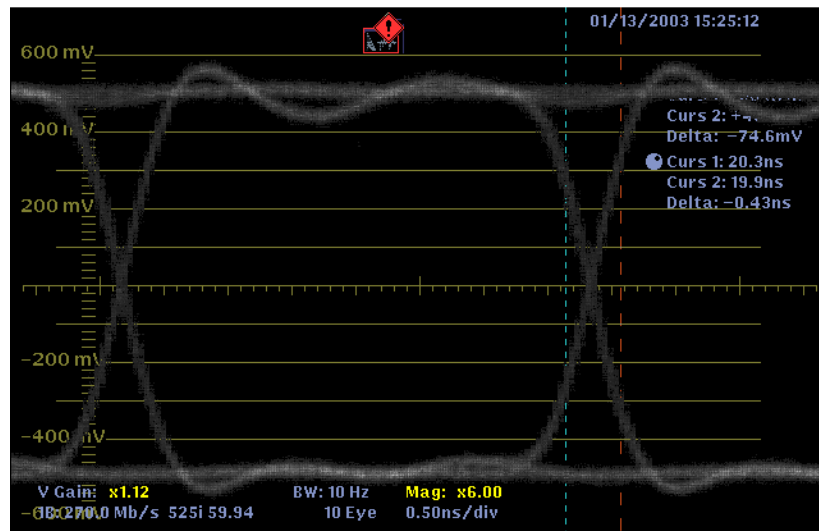

Figure 3-3: Timing Cursors alignment for measuring 20-80% rise time
3. Position the first timing cursor at the crossing of the rising edge of the Eye waveform and the graticule line two divisions above the bottom of the waveform as shown in Figure 3-3.
4. Position the second time cursor at the crossing of the rising edge of the Eye waveform and the graticule line two divisions below the top of the waveform as shown in Figure 3-3.